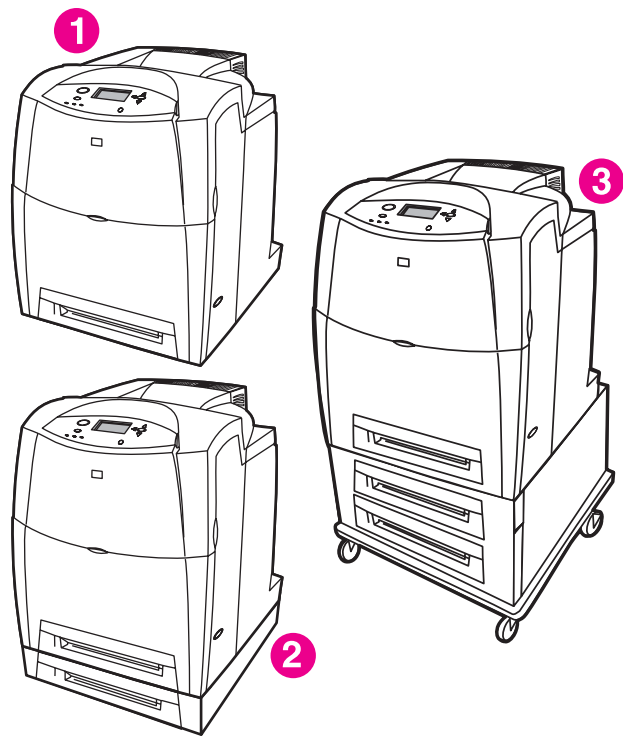

Figure 1-1.
HP Color LaserJet 4600 printer (model number C9660A)	The HP CLJ 4600 printer is the base model, which includes 96 megabytes (MB) of synchronous dynamic random access memory (SDRAM), one 500-sheet input tray. Callout 1 in Figure 1-1. HP CLJ 4600 and 4650 models shows the HP Color LaserJet 4600 printer.
HP Color LaserJet 4600n printer (model number C9692A)	<p>The HP CLJ 4600n printer contains all of the features of the base model plus an HP Jetdirect 610n print server (network card) and automatic 2-sided printing (duplexing).</p> <p>Callout 1 in Figure 1-1. HP CLJ 4600 and 4650 models shows the HP Color LaserJet 4600n printer.</p>
HP Color LaserJet 4600dn printer (model number C9661A)	<p>The HP CLJ 4600dn printer contains all of the features of the base model plus an HP Jetdirect 610n print server (network card), automatic 2-sided printing (duplexing), an additional 500-sheet feeder, and 10 MB of SDRAM.</p> <p>Callout 2 in Figure 1-1. HP CLJ 4600 and 4650 models shows the HP Color LaserJet 4600dn printer.</p>
HP Color LaserJet 4600dtn printer (model number C9662A)	<p>The HP CLJ 4600dtn printer contains all of the features of the base model plus an HP Jetdirect 610n print server (network card) and automatic 2-sided printing (duplexing), an additional 500-sheet feeder, and 10 MB of SDRAM.</p> <p>Callout 2 in Figure 1-1. HP CLJ 4600 and 4650 models shows the HP Color LaserJet 4600dtn printer.</p>
HP Color LaserJet 4600hdn printer (model number C9663A)	<p>The HP CLJ 4600hdn printer contains all of the features of the base model with an HP Jetdirect 610n print server (network card) and automatic 2-sided printing (duplexing), an additional 500-sheet feeder, a hard disk, and 160 MB of SDRAM.</p> <p>Callout 2 in Figure 1-1. HP CLJ 4600 and 4650 models shows the HP Color LaserJet 4600hdn printer.</p>
HP Color LaserJet 4650 printer (model number Q3668A)	<p>The HP CLJ 4650 printer is the base model, which includes 128 megabytes (MB) of dual-data-rate (DDR) synchronous dynamic random access memory (SDRAM), plus 32 MB of additional memory on the formatter board for a total of 160 MB of memory, and a 500-sheet input tray.</p> <p>The printer provides three enhanced input/output (EIO) slots, wireless connectivity, an auxiliary port, a universal serial bus (USB) connection, and a standard bidirectional parallel cable interface (IEEE-1284-C compliant).</p> <p>Callout 1 in Figure 1-1. HP CLJ 4600 and 4650 models shows the HP Color LaserJet 4650 printer.</p>
HP Color LaserJet 4650n printer (model number Q3669A)	<p>The HP CLJ 4650n printer contains all of the features of the base model plus an HP Jetdirect 620n print server (network card).</p> <p>Callout 1 in Figure 1-1. HP CLJ 4600 and 4650 models shows the HP Color LaserJet 4650n printer.</p>
HP Color LaserJet 4650dn printer (model number Q3670A)	<p>The HP CLJ 4650dn printer contains all of the features of the base model plus an HP Jetdirect 620n print server (network card) and automatic 2-sided printing (duplexing).</p> <p>Callout 1 in Figure 1-1. HP CLJ 4600 and 4650 models shows the HP Color LaserJet 4650dn printer.</p>
HP Color LaserJet 4650dtn printer (model number Q3671A)	<p>The HP CLJ 4650dtn printer contains all of the features of the base model plus an HP Jetdirect 620n print server (network card), automatic 2-sided printing (duplexing), an additional 500-sheet feeder.</p> <p>This model has 256 MB of DDR SDRAM, plus 32 MB of additional memory on the formatter board for a total of 288 MB of memory.</p> <p>Callout 2 in Figure 1-1. HP CLJ 4600 and 4650 models shows the HP Color LaserJet 4650dtn printer.</p>
HP Color LaserJet 4650hdn printer (model number Q3672A)	<p>The HP CLJ 4650hdn printer contains all of the features of the base model plus an HP Jetdirect 620n print server (network card), automatic 2-sided printing (duplexing), a 2 x 500-sheet feeder, and a hard drive.</p> <p>This model has 256 MB of DDR SDRAM, plus 32 MB of additional memory on the formatter board for a total of 288 MB of memory.</p> <p>Callout 3 in Figure 1-1. HP CLJ 4600 and 4650 models shows the HP Color LaserJet 4650hdn printer.</p>